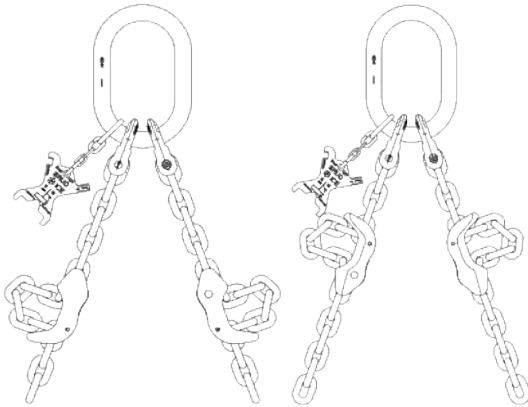

Fig. 6: Multi-strand mounting
- Mount the multi-shortening claws in 2-strand suspensions for easier use in the position "back to back" (see Fig. 6).